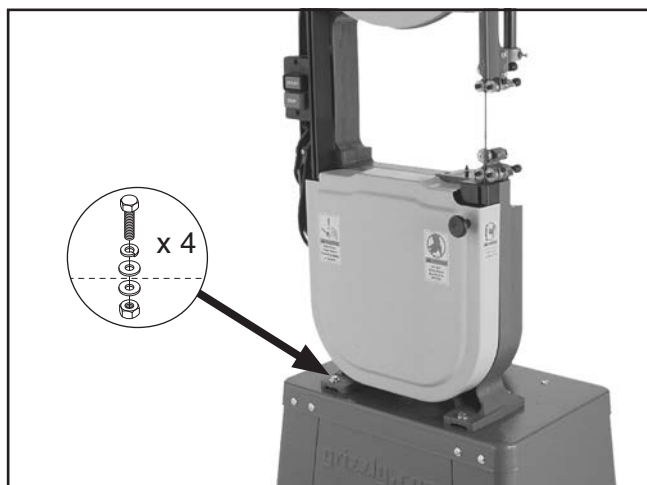

Figure 14. Bandsaw assembly attached to the stand.
8. Secure the bandsaw assembly to the stand with (4) $\frac{5}{16}$ "-18 x $1\frac{1}{2}$ " hex bolts, (4) $\frac{5}{16}$ " lock washers, (8) $\frac{5}{16}$ " flat washers, and (4) $\frac{5}{16}$ "-18 hex nuts, as shown in **Figure 14**.